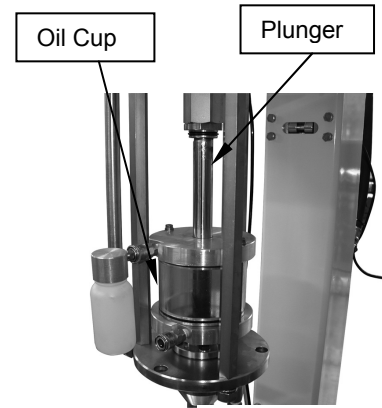

Fig.7.1
1. The plunger sliding section and solvent cup of the pump are sealed with seal. When the plunger slides up and down repeatedly, solvent is accumulated at the rim of the plunger. Clean the rim periodically. (Fig.7.1)